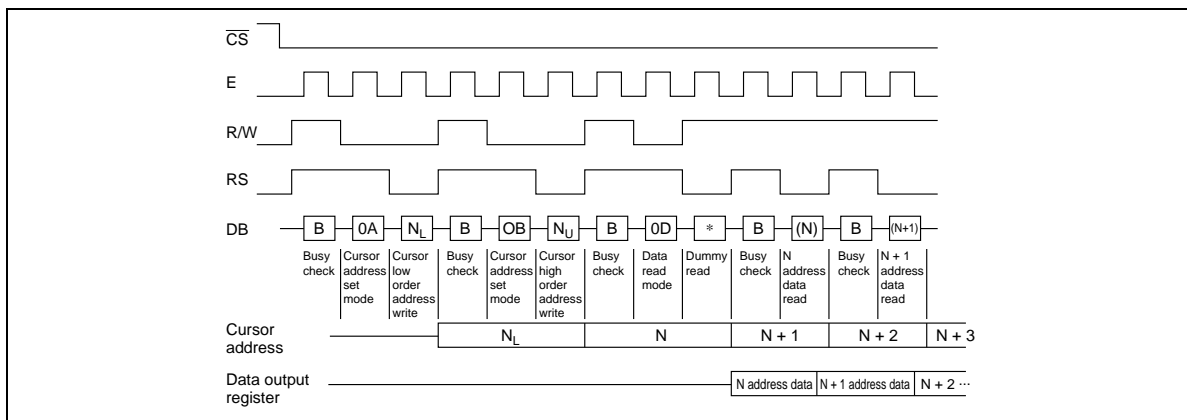

Figure 1 Read Procedure
9. Read Display Data: Data can be read from the RAM with RS = 0 after writing code \$“0D” into the instruction register. Figure 1 shows the read procedure.